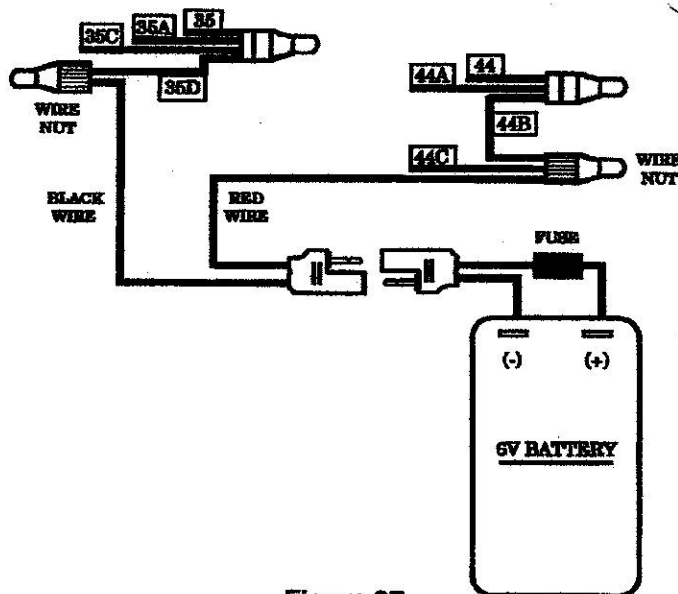

Figure 27
3. When replacing the battery, make sure the battery is wired as shown in Figure 27.